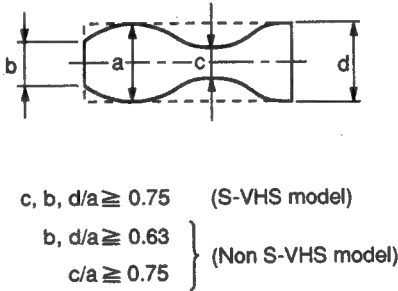

Fig. 7-3-5
- 3. Make sure the video envelope waveform (in its maximum output) meets the specification shown in Fig. 7-3-5. Again make sure the same by playing back the SP mode 2 MHz video signal on the alignment tape. If not satisfied, adjust as follows:
1. Make recordings and play back the tapes (E-180 and E-240) in SP and LP modes and make sure the playback output envelope meets the specifications shown in Fig. 7-3-5.